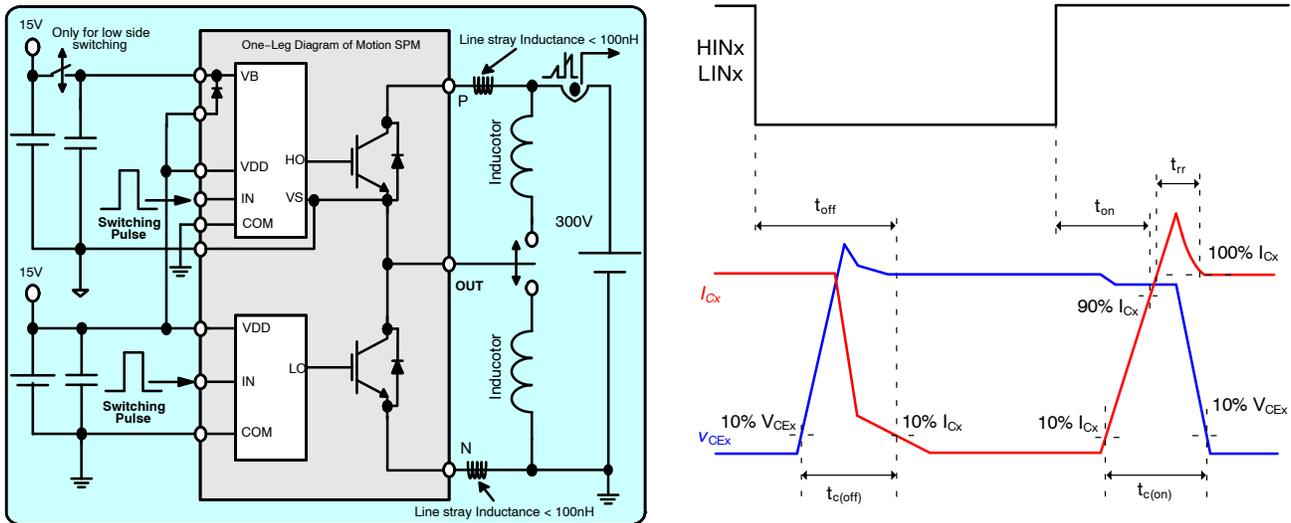

Figure 8. Switching Evaluation Circuit and Switching Time Definition
5.  $t_{ON}$  and  $t_{OFF}$  include the propagation delay time of the internal drive IC.  $t_{C(ON)}$  and  $t_{C(OFF)}$  are the switching time of IGBT itself under the given gate driving condition internally. For the detailed information, please refer to Figure 8.